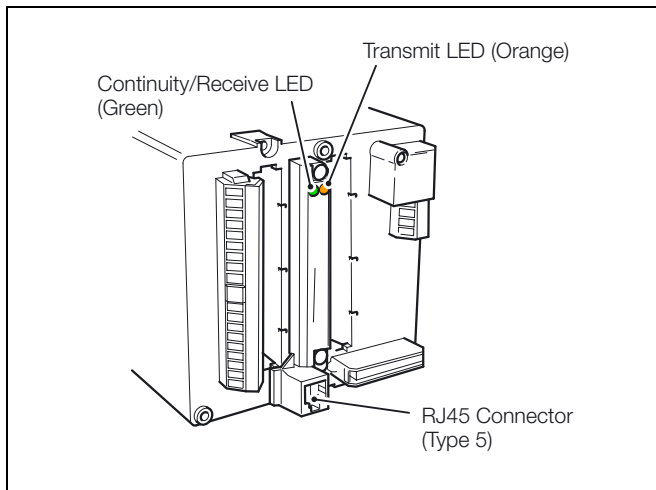

Fig. 2.1 Ethernet Connector
To connect the instrument into an Ethernet network, use a single network cable to link it to the network hub. The connection is made using a standard RJ45 connector at the rear of the unit on module C – see Fig. 2.1.
4. If a valid response is not received, check that the correct IP address was entered and that the host PC has an IP address with the same network ID as defined by the subnet mask. If that is correct, check the connecting cable and confirm that the green continuity LED on the instrument's Ethernet module indicates that a connection has been made – see Fig. 2.1.